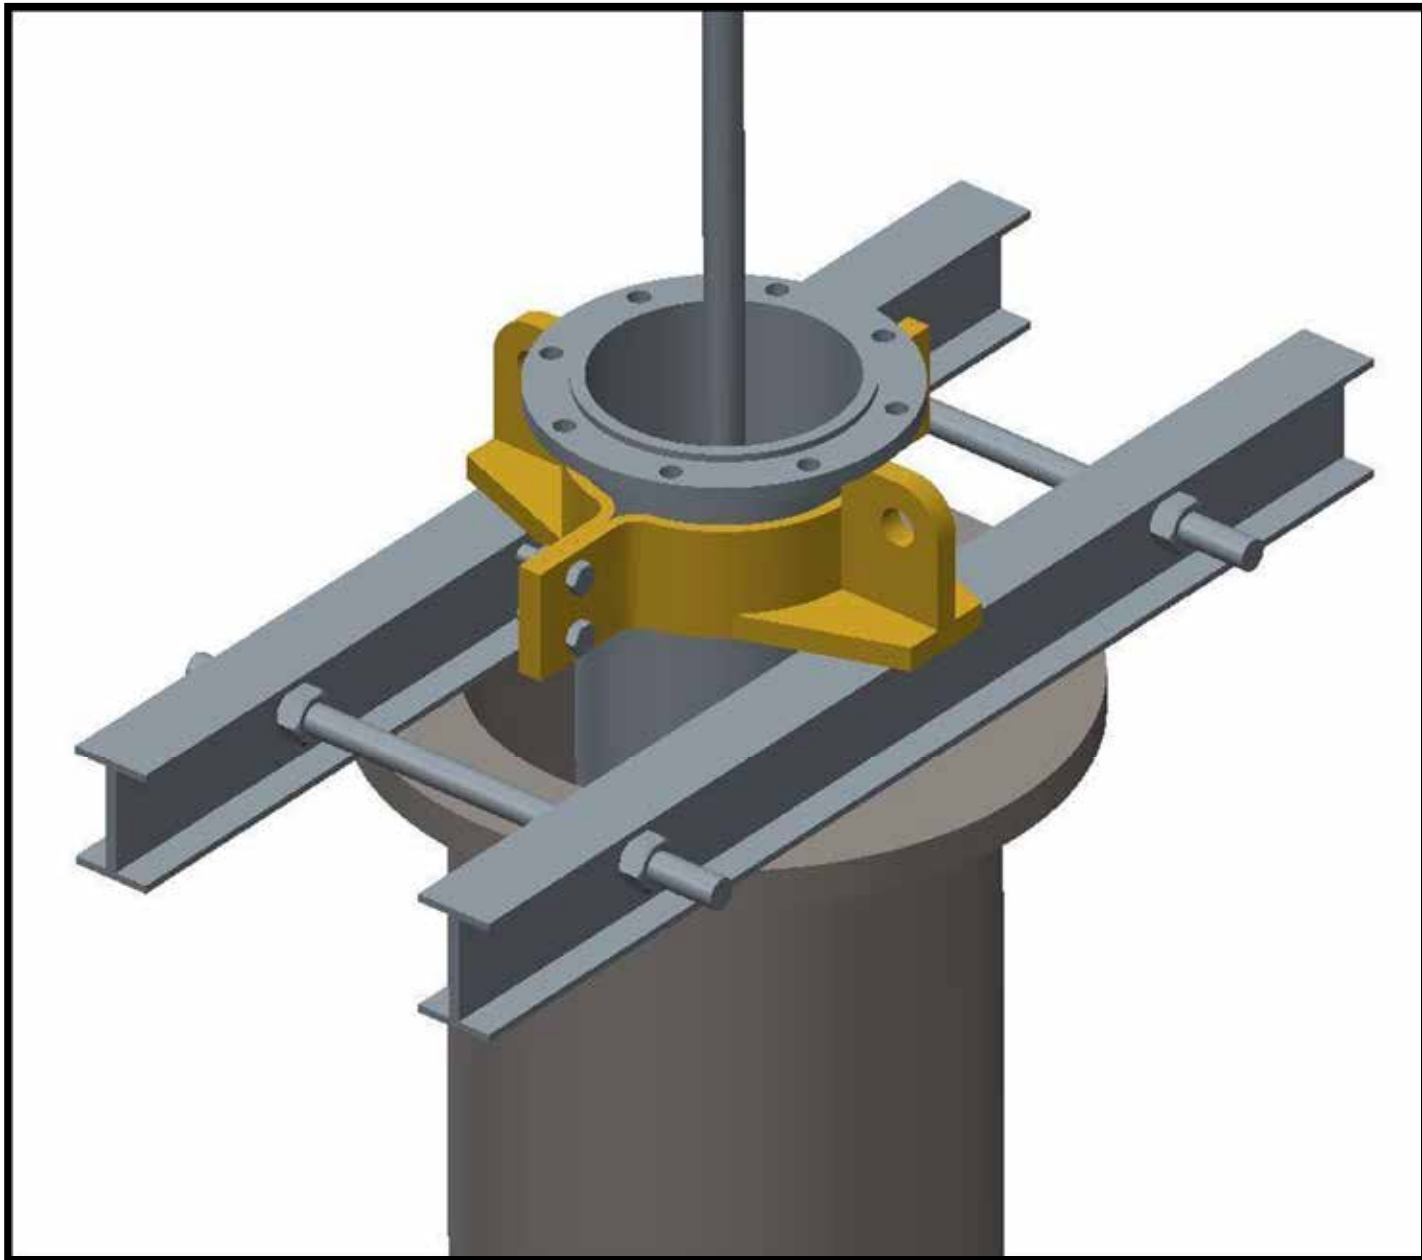

Figure 9: Finished Assembly showing partial pump assembly resting on I-Beams.
3. After the I-Beam installation is complete, finish lowering the pump assembly until the Lifting Clamps (3) rest firmly on the I-Beam supports. Remove lifting sling and Shackles (2). Refer to Figure 9.